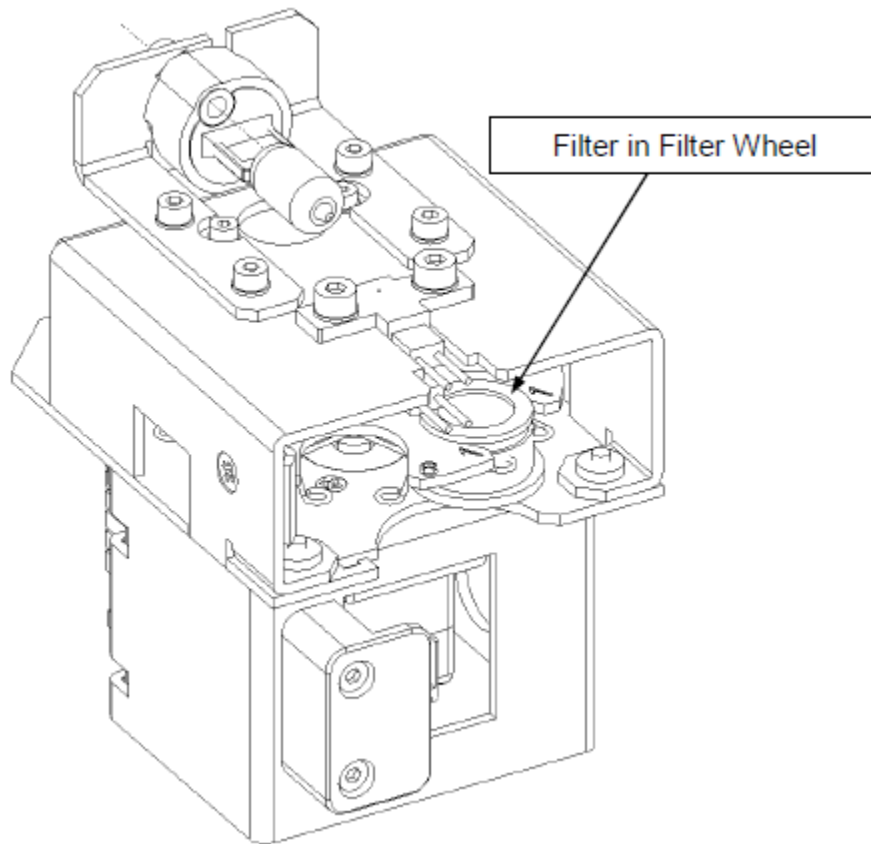

Figure 5-5: Filter in Filter Wheel
3. Place three Optic Filters; the 450 Filter in position 2, the 630 Filter in position 3, and the 690 Filter (in position 4 of the Primary Optics Filter Wheel. Push the filters past the spring tines such that the annular grooves align with the filter wheel slots (Figure 5-5). A 405 Filter should already be installed in position 1 of the Filter Wheel.